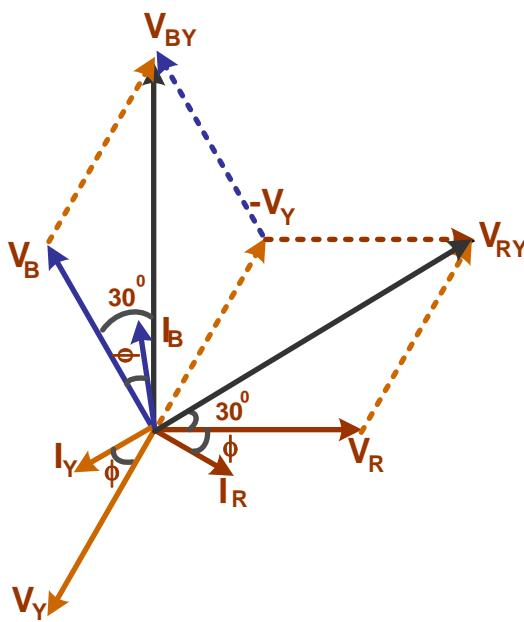

Figure 2.54 Phasor Diagram of Power Measurement by Two-Watt Meter in Three Phase Star Connection
- The load is considered as an inductive load and thus, the phasor diagram of the inductive load is drawn below in Fig. 2.54.
- From the Fig. 2.54, it is clear that for lagging power factor $\cos \phi$, the wattmeter readings are